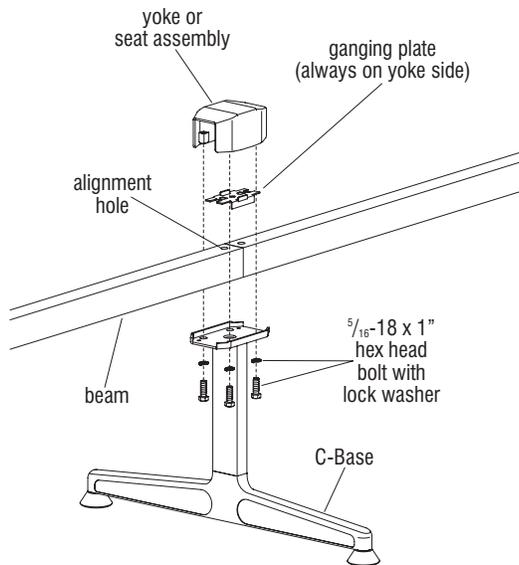

Figure 6
25. Set the pair of beams to be joined onto the C-base as illustrated. The alignment holes at the end of each beam must face up (Figure 6).
26. Position the ganging plate over the beams as illustrated, so the tabs fit into the alignment holes. Place a yoke over the ganging plate, beams and base. Secure from underneath with four $\frac{5}{16}$ -18 x 1” hex head bolts and lock washers. Torque bolts to 21 ft/lbs in a diagonal pattern (Figure 6).